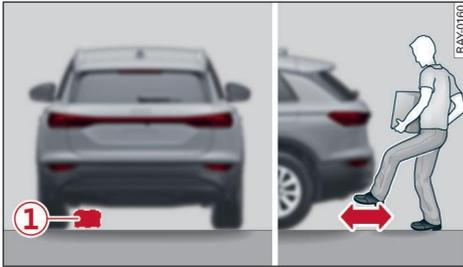

Fig. 12 Rear of vehicle: Kicking movement (example)
- ▶ To open/close the boot lid, swing your foot forwards and back under the bumper without touching it in one single fluid movement ⇒ *Fig. 12*. Take care not to slip. The boot lid will open/close when the system detects the gesture. If the boot lid is fully open, it will be closed with a delay as soon as you move away from the vehicle and there are no keys in the vicinity of the boot lid. A warning tone will sound until the boot lid starts closing. If you move